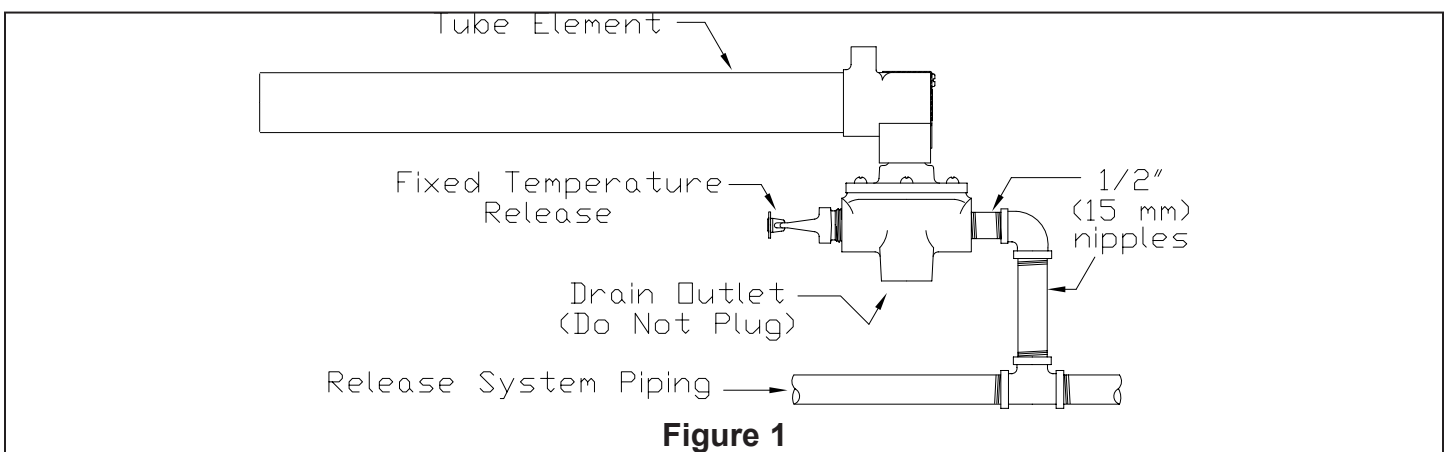

Figure 1
5. Unless otherwise specified in the Technical Data, release piping should be ½" galvanized steel or hard copper piping. The interior of the ½" (15 mm) release line must be cleared of foreign material prior to release installation. Connect each thermostatic release to release piping using ½" (15 mm) NPT nipples as shown in Figure 1.